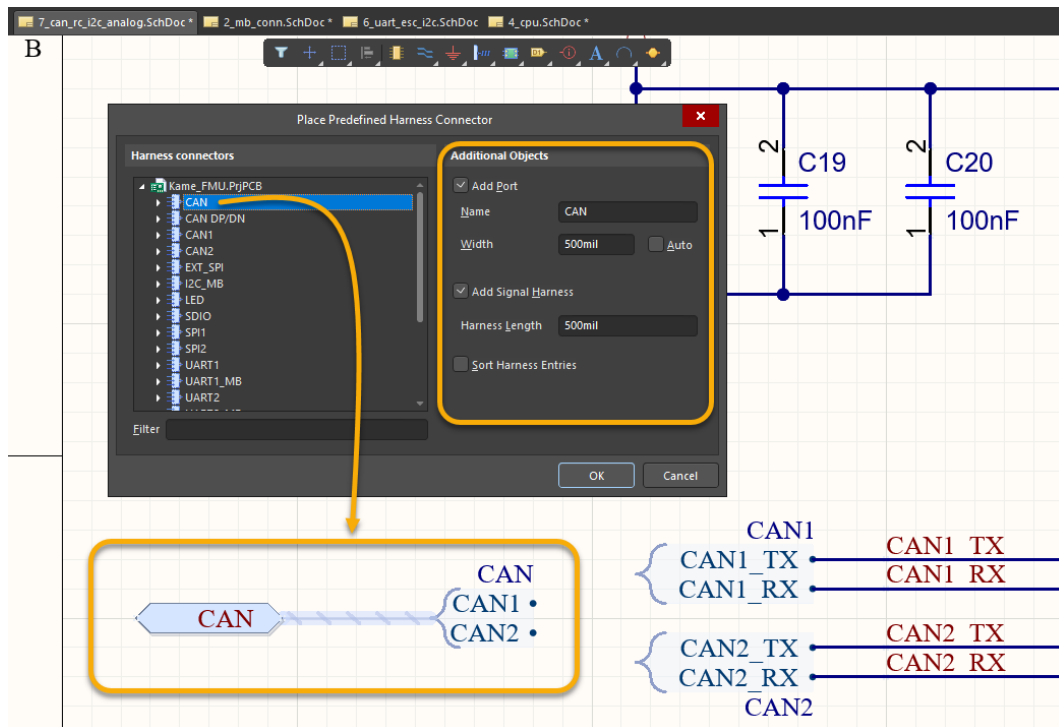

Figure 18. Page 7\_can\_rc\_i2c\_analog.SchDoc with three CAN harness
42. From the **Place** menu, select **Harness**, then **Predefined Harness Connector**. Then, follow the information for the settings using Figure 18 as a reference.
- f) Left-click to place it to the left of the **CAN1** and **CAN2** Signal Harnesses as shown in Figure 18.